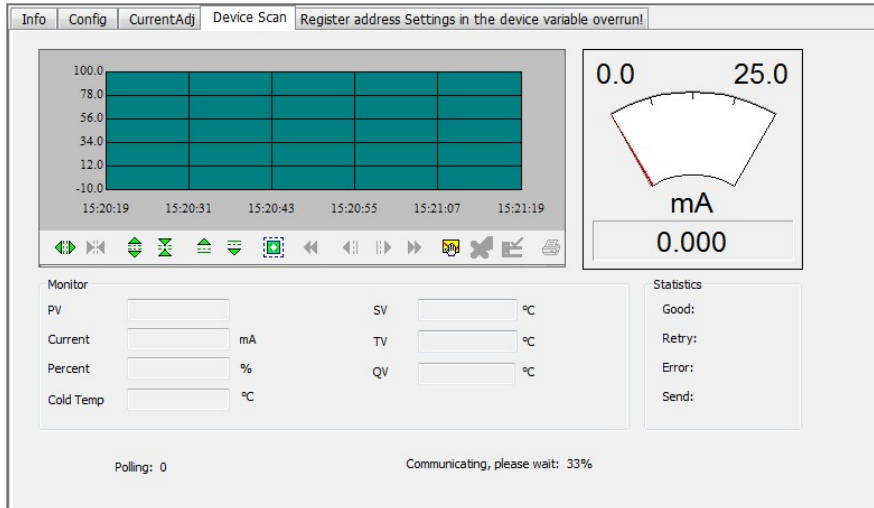

Figure 5.23 Variable Monitoring tab
- (1) Left-click on an online device in the network view, and the right tab view displays the tabs associated with the device.
- (2) Click “variable Monitoring” in the right tab view, as shown in Figure 5.23.